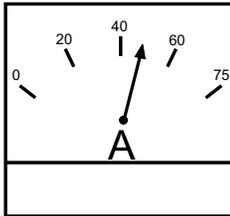

Figure 61. Ammeter (Load)
19. Look at the generator's ammeter (Figure 61) and verify that it reads the anticipated amount of current with respect to the load. Remember the ammeter will only display a current reading if the load is in use.